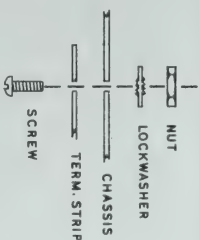

Figure 4
- (1) Place the 20 μ fd filter capacitor in position so the negative lead passes through the solder lug at C (S).
- (2) Connect the positive (red) lead to E1 (NS).
- (3) Connect a 4" length of hookup wire to E1 (S). Leave the other end free.
- (4) Connect a 4" length of wire to E2 (S). Leave the other end free.
- (5) Connect a 4" length of wire to E3 (S). Leave the other end free.
- (6) Check to see that all leads are soldered, that no inadvertent shorts exist and that no loose wire ends or other foreign material is lodged in the wiring. The area around the corner mounting holes should be clear of wiring and components and all components should be close to the chassis so that room will be available when mounting the unit in the chassis base.
- (7) Lay the chassis top aside and mount the 4-lug screw-terminal strip at AA on the chassis base using 6-32 hardware. See Figure 4.